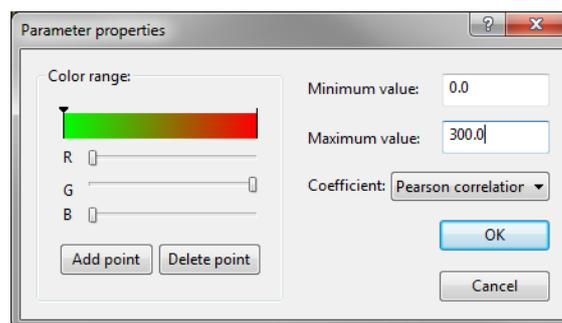

Figure 14: Parameter properties.
6. Select *Parameters* > *Parameter properties...* to call the *Parameter properties* dialog box (see Figure 14).